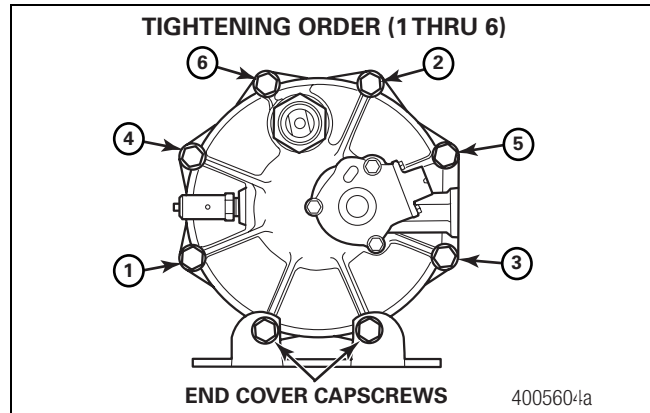

Figure 2
- Place the outer housing over the desiccant cartridge. Align the holes, then install the six short capscrews, locknuts and 12 special washers. Verify that they are in the correct position as marked during disassembly. Tighten the six capscrews in the numeric sequence shown to 270-385 lb-in (30.51-43.5 N•m). Figure 2. ⚠
- Use the two long end cover capscrews, locknuts and special washers to secure the air dryer to the bottom bracket. Tighten the screws to 270-385 lb-in (30.5-43.5 N•m). Figure 2. ⚠